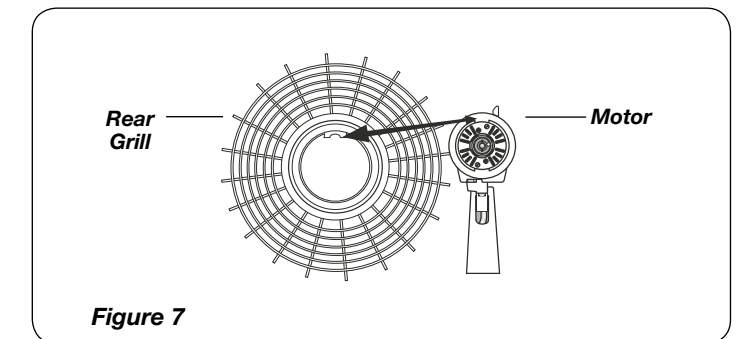

Figure 7
- Tilt **Head Assembly** back. Put **Rear Grill** on **Motor**. (**Figure 7**)